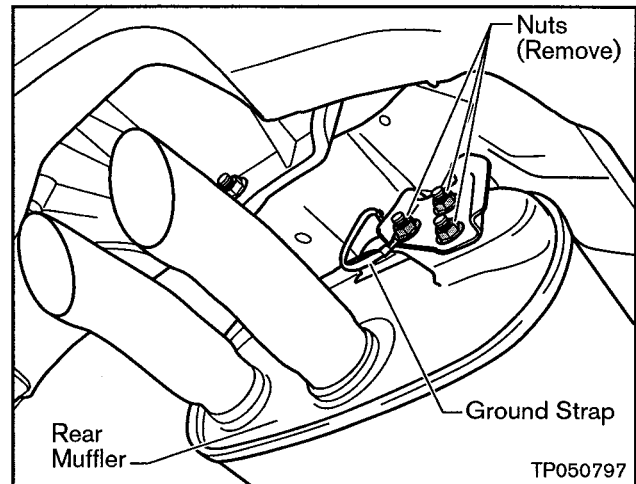

Figure A5
- b. Remove three nuts and disconnect the rear muffler from the mounting bracket (see Figure A5).